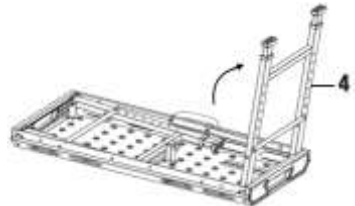

Fig. 2
3. Pull upwards one set of legs (#4), making sure to extend them fully (Fig. 2).